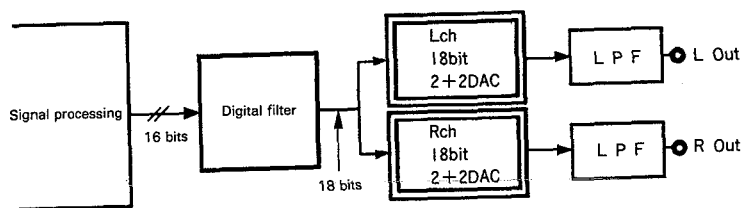

Figure 6
- (1) **18-bit digital filter:** The CD player digital filter is normally output in 16 bits and input to the D/A converter. As shown in Figure 6, the digital filter in this machine fetches an 18-bit signal having more information.